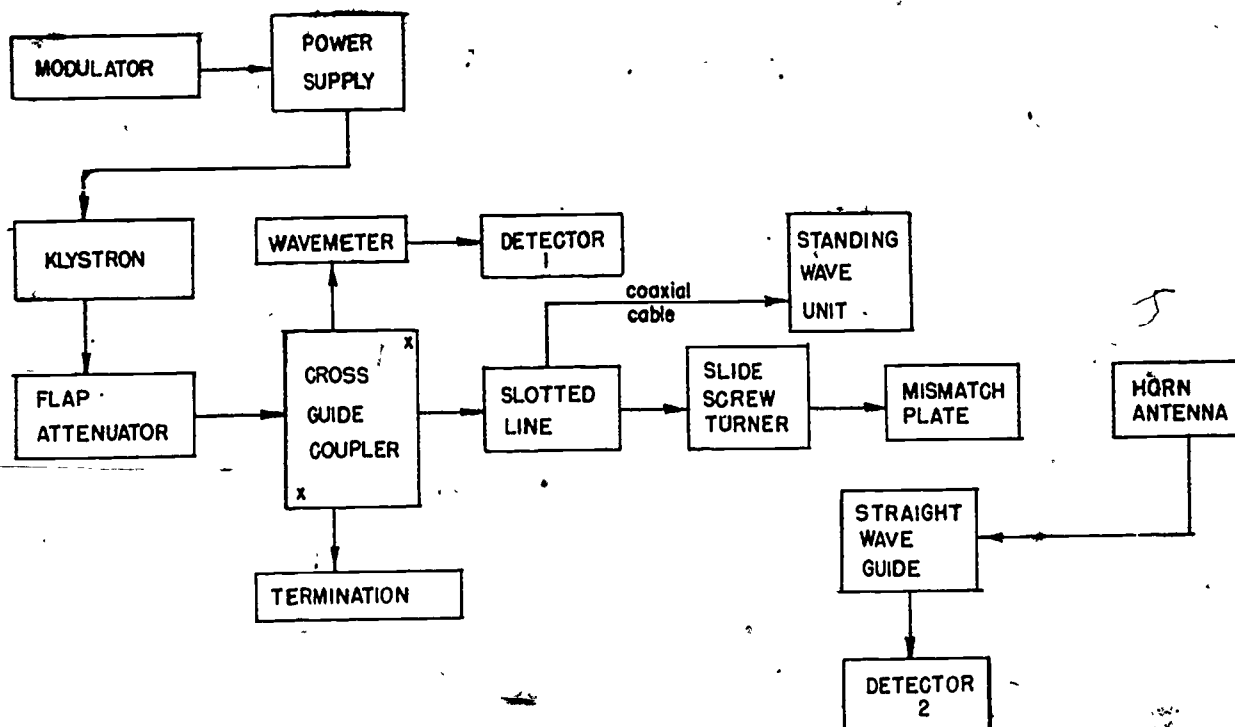

Fig. 1--Equipment Connections--Impedance Matching
1. Set up equipment as shown in Fig. 1.